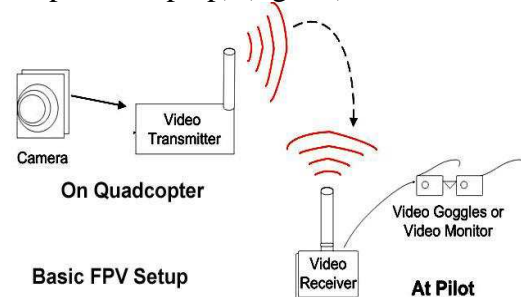

Fig. 10. First Person View
14. FPV -First Person View is the term used to describe a picture at ground level, which sees the camera on quadcopter. Current systems use different monitors to accomplish this (tablets, Iphone, Smartphone, laptop) (fig. 10).